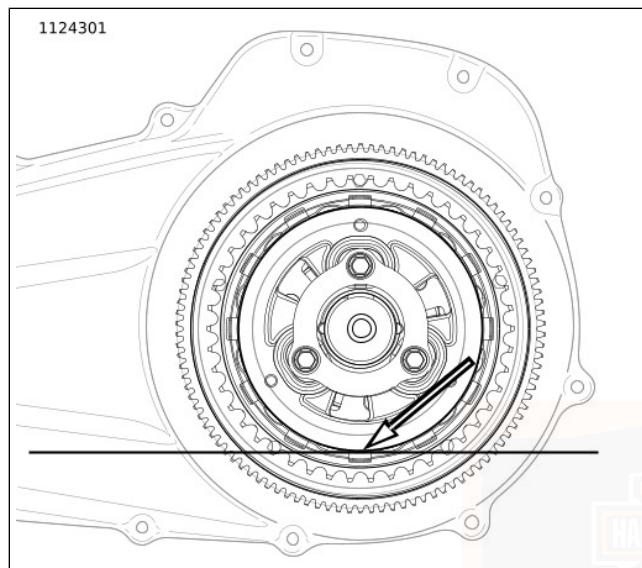

Figure 62. Primary Lubricant Level
- b. See Figure 62. Proper level is approximately at bottom of pressure plate OD.